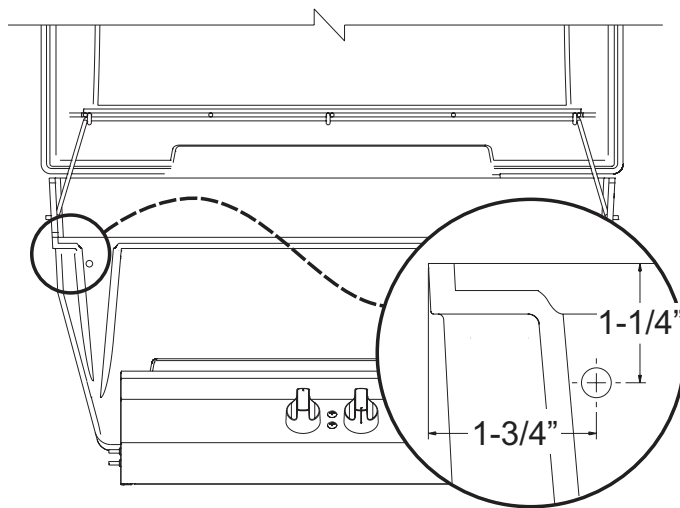

Figure 3
7. Drill 1/8" pilot hole through grill body bottom. Refer to Figure 3 for hole location. Enlarge 1/8" pilot hole with a 5/16" drill bit for final hole size.